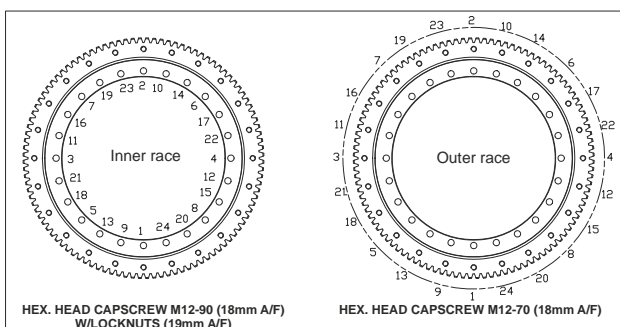

Figure 5-2. Torque Sequence Diagram
4. Following the torque sequence diagram (Refer to Figure 5-2.) tighten the bolts to an initial torque of 80 N.m (59 ft.lbs). Then following the same sequence, tighten to a final torque of 117 N.m (86 ft.lbs).
8. Following the torque sequence diagram (Refer to Figure 5-2.) tighten the bolts to an initial torque of 80 N.m (59 ft.lbs). Then following the same sequence, tighten to a final torque of 117 N.m (86 ft.lbs).